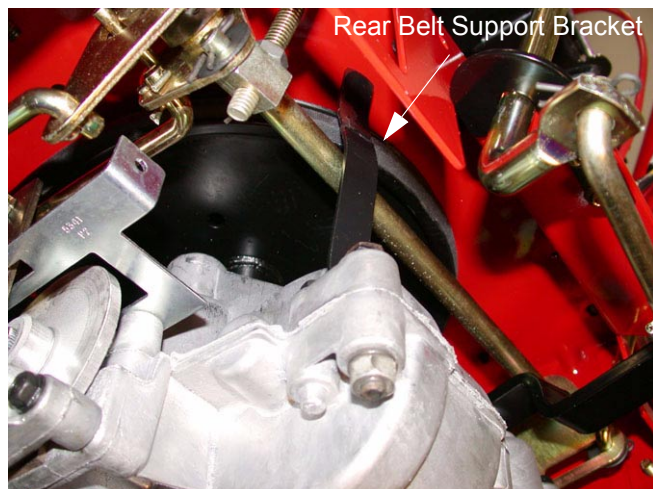

Figure 25
- 7.7. Using a 1/2 inch socket, loosen the nut securing the rear belt support bracket to the transmission. Pivot the belt support away from the belt. See Figure 25.